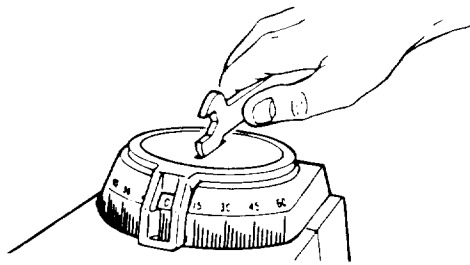

Fig. 64
22. Set miter indicator on 0° position as shown. (Figure 64)